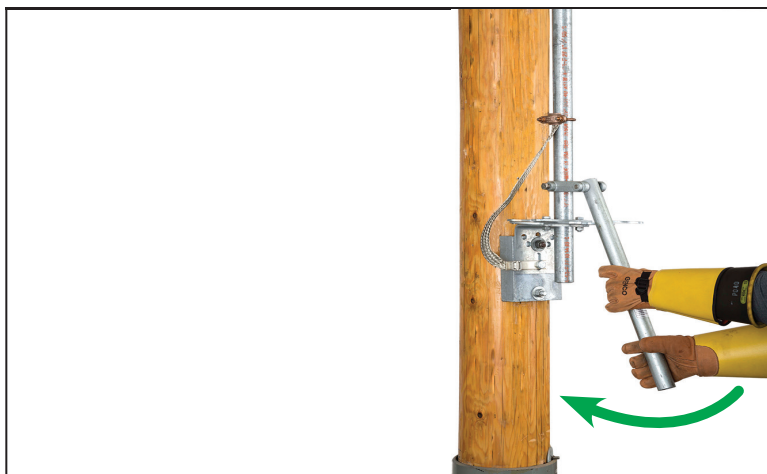

Figure 30. Swing the operating handle through its full travel.
- (a) Swing the handle rapidly to the fully open or fully closed position. Check that all three poles are fully open or fully closed. See Figure 30.